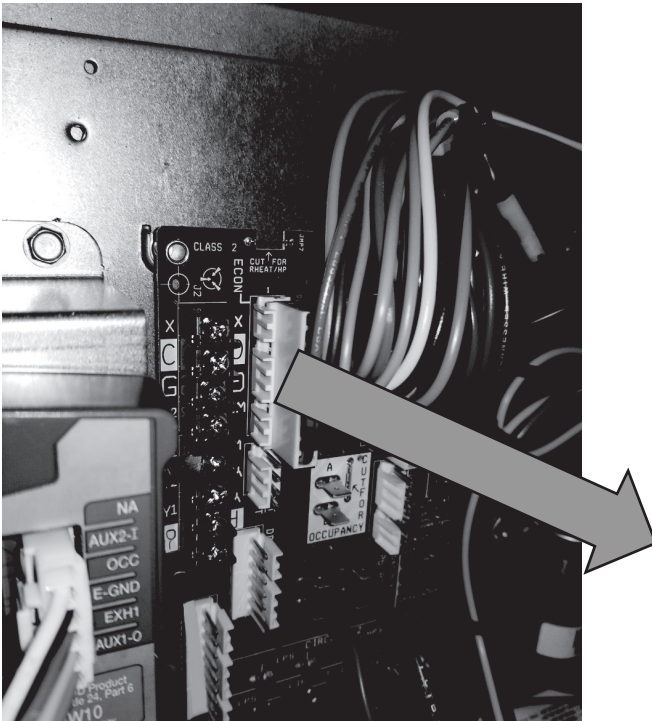

Fig. 16 — Unplug ECON plug from Central Terminal Board (CTB)
20. Unplug the 10-pin female ECON plug currently connected to the Central Terminal Board (CTB). See Fig. 16.